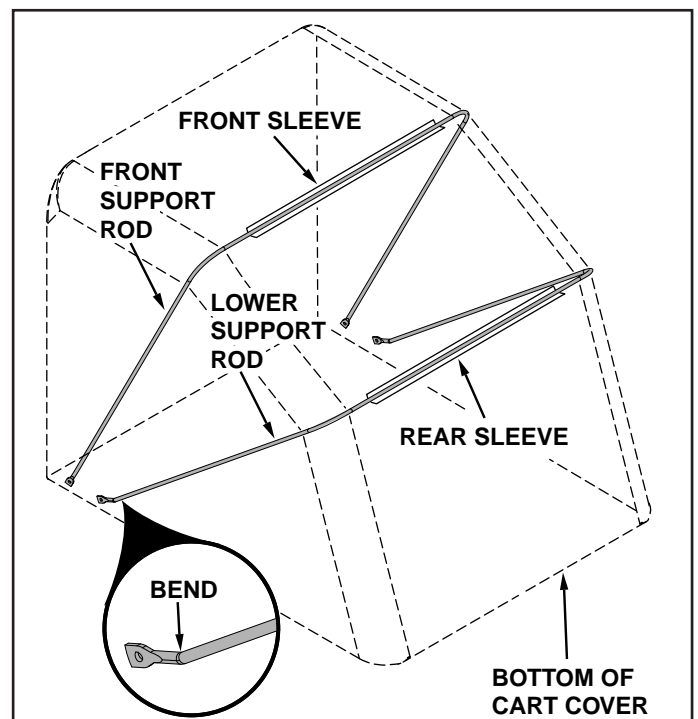

FIGURE 14
- Slide the front support rod (straight ends) through the front sleeve located in the top of the cart cover. Slide a lower support rod (bent ends) through the rear sleeve located behind the front sleeve. The **bend** in the rod must face in the direction shown in figure 14.